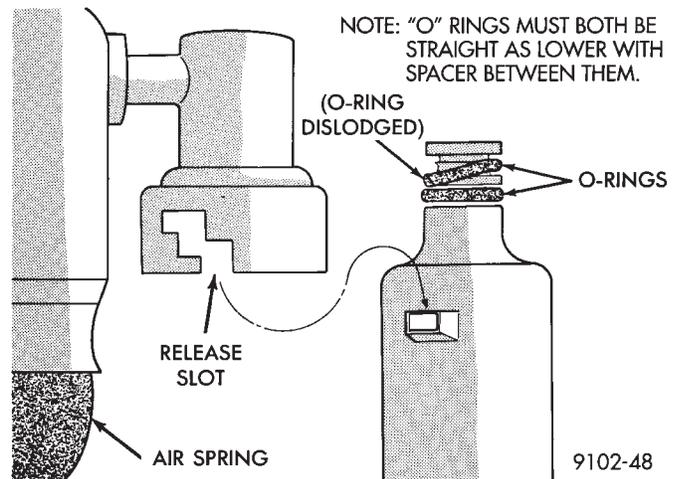

Fig. 16 Remove Solenoid (Inspect O Ring)
- (5) Rotate solenoid to release slot and remove (Fig. 16).
(1) Inspect O-Ring condition and position on solenoid stem. (O-Ring can become dislodged during removal (Fig. 16).
(2) Install solenoid with tangs to top ledge of housing and install retaining clip.
(3) Reconnect air line and electrical connection.